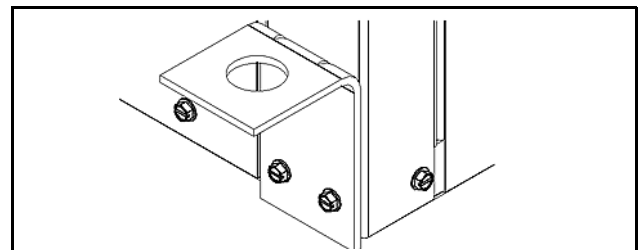

Fig. 8
2. Mount the four brackets to unit corner post using the bolts provided in the kit as shown in Fig. 8.